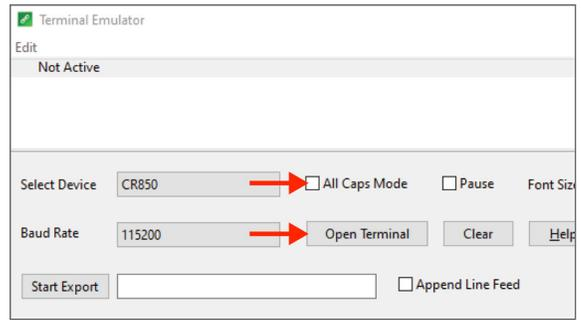

Figure 36 Closed Terminal Window
- Uncheck the **All Caps Mode** checkbox if it is checked (Figure 36).
- Click on the **Open Terminal** button (Figure 36).